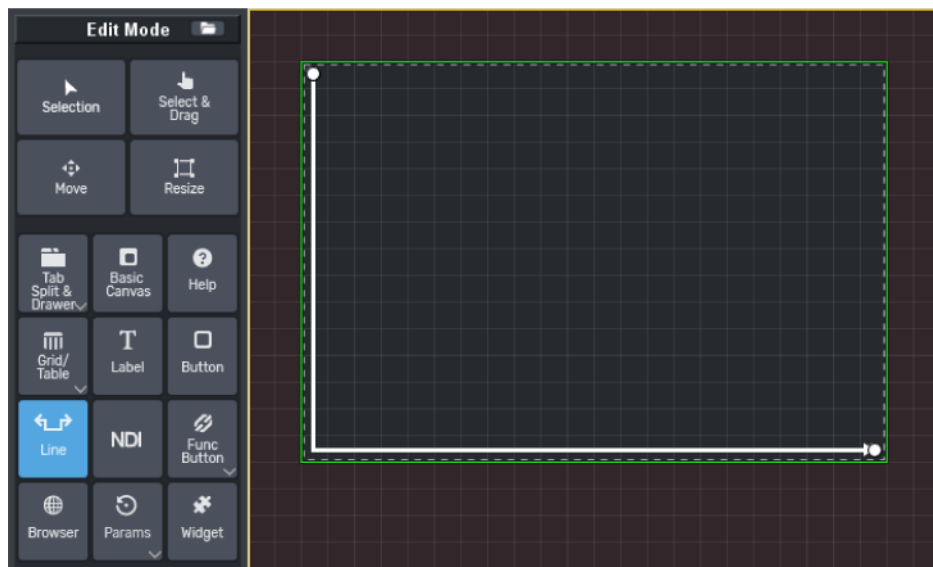

Figure 5.14 - Adding a Component (with **Lines** button selected, dragging to define line boundaries)
3. On the **CustomPanel**, click and drag to specify the area of the new component (**Figure 5.14**).